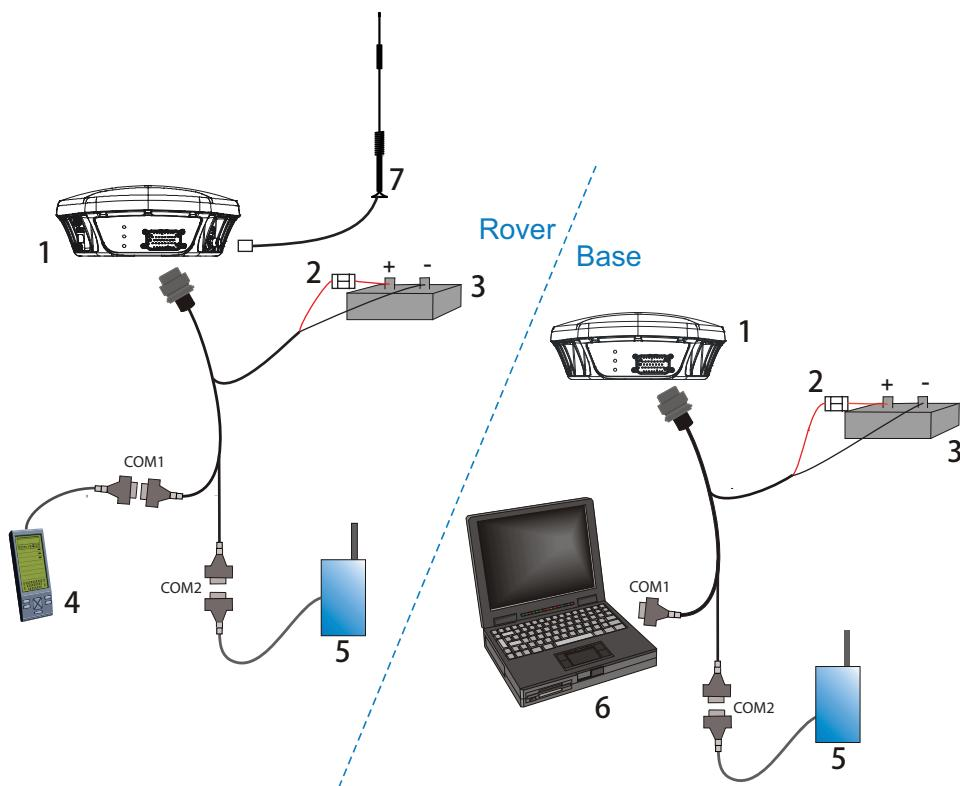

Figure 15: Basic Differential Setup
Before operating the SMART-MR10 or SMART-MR15 for the first time, ensure that you have followed the installation instructions in *Chapter 2 Installation* starting on page 27. The following instructions are based on a COM port configuration such as that shown in *Figure 15* on page 50. It is assumed that a personal computer (PC), or laptop, is used during initial operation and testing for greater ease and versatility.
RTK or DGPS corrections can be transmitted from a base station to a rover station to improve position accuracy. The base station is the GNSS receiver, which is acting as the stationary reference. It has a known position and transmits correction messages to the rover station. The rover station is a GNSS receiver which can be sent correction messages from a base station to calculate differential GNSS positions. The SMART-MR10/15 can be used as base receivers to transmit RTK or DGPS corrections, or as rovers to receive the same corrections. An example of a differential setup is given in *Figure 15* on page 50.